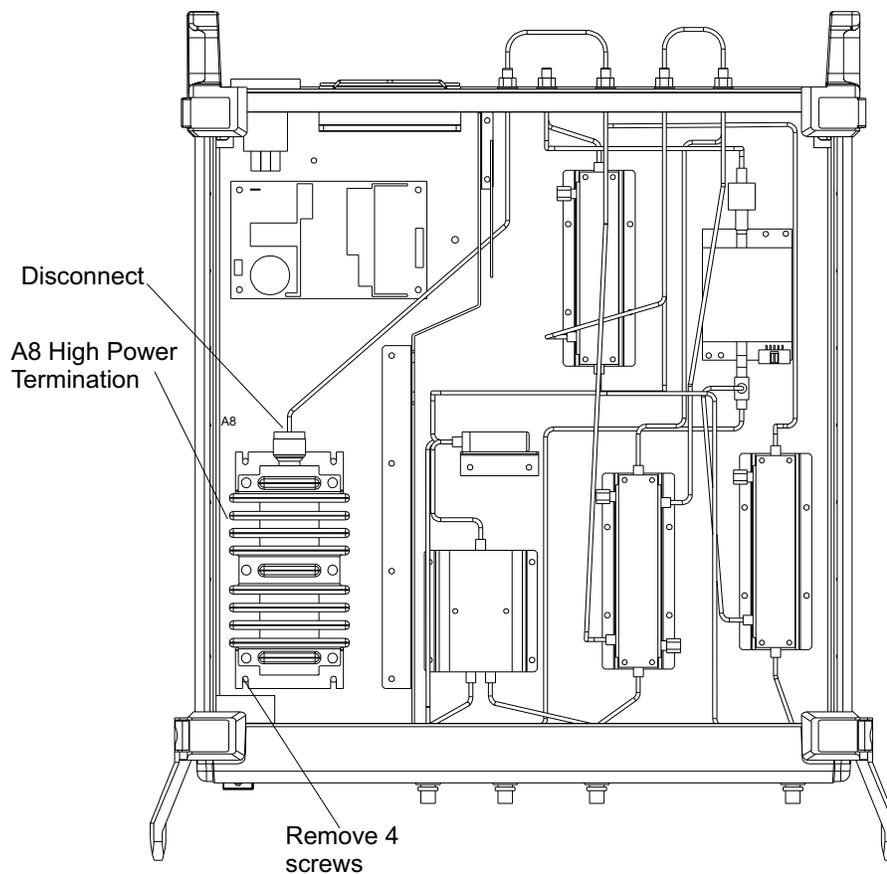

Figure 5-9. A8 High Power Termination Removal
- Step 2.** Disconnect the cable connector from the termination (Figure 5-9).